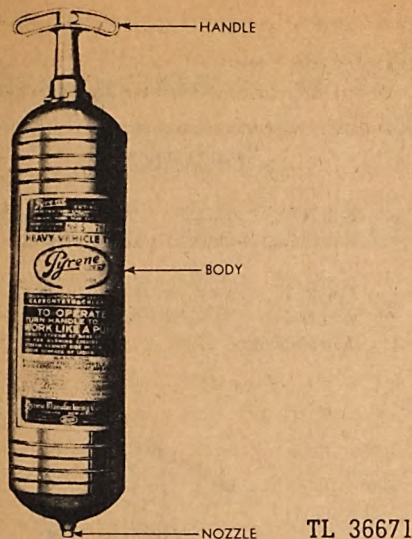

Fig. 19. Carbon Tetrachloride Fire Extinguisher
*a. Carbon Tetrachloride Fire Extinguisher.* The small hand pumping Pyrene extinguisher holds one quart of liquid. It is of the vaporizing liquid type, using basically carbon tetrachloride ( $\text{CCl}_4$ ). The pump in this extinguisher is double acting. That is, it expels the fluid on both the up stroke and the down stroke, thereby assuring a constant stream. All the vital parts are noncorrosive metals and will last indefinitely. (See Figure 19.)